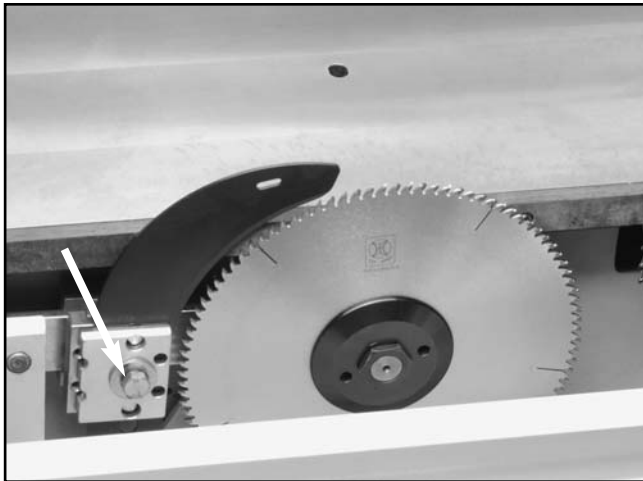

Figure 92. Riving knife securing bolt.
4. Pull the blade guard away from the riving knife to expose the mounting assembly as shown in **Figure 92**. (The internal blade guard is held in place with a magnet.)